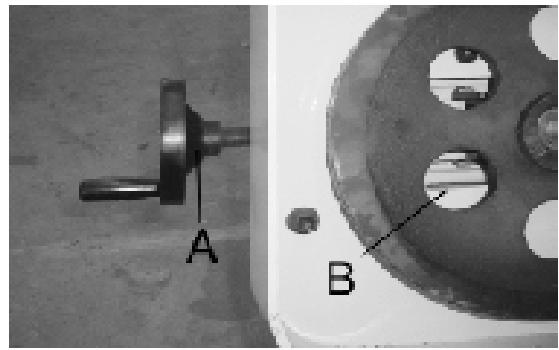

Fig.8
To tension the blade, lift up the left wheel cover and turn the blade tension handle (A) Fig.8, clockwise. A pointer and tension scale (B) is located underneath the wheel. The scale is graduated to indicate tension of 20,000, 30,000 and 35,000 pounds per square. inch (psi). For carbon blades (similar to the one supplied with the machine) the blade should be tensioned at 20, 000 psi. For bi-metal blades, the blade should be at 30,000 psi. Always release blade tension at the end of each work day to prolong blade life.